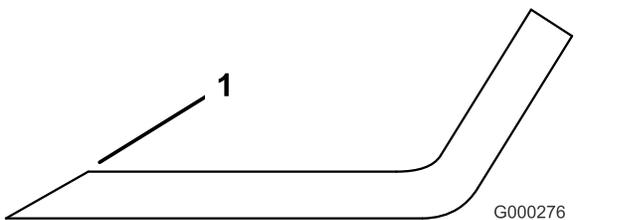

**Figure 91**
2. Examine the cutting ends of the blade carefully, especially where the flat and curved parts of the blade meet (Figure 91).
**Note:** Because sand and abrasive material can wear away the metal that connects the flat and curved parts of the blade, check the blade before using the mower. If you notice wear (Figure 91), replace the blade.